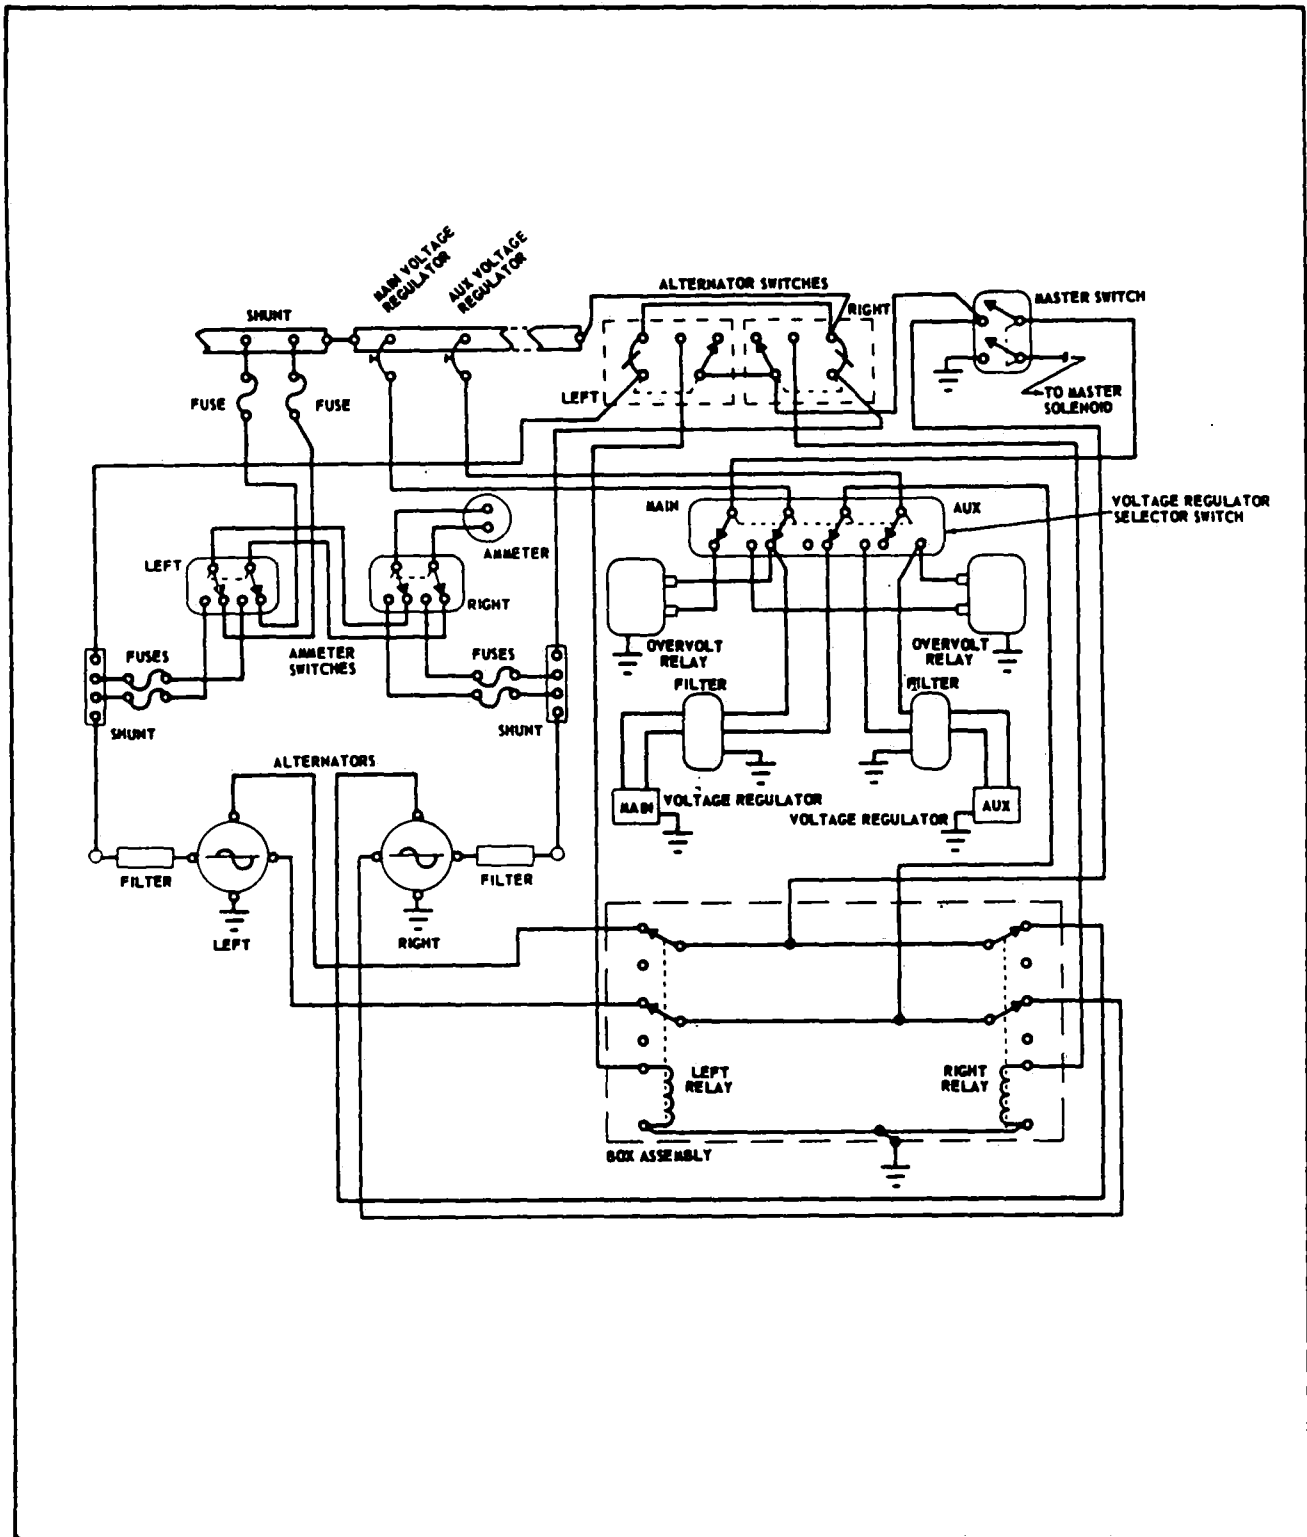

Figure 11-20. Alternator Wiring System Schematic
11-53. CHECKING ALTERNATOR SYSTEM. The ammeter is equipped with a selector switch which enables an independent output check of each alternator, as well as the electrical output-input of the battery. Should either alternator show no output on the ammeter, check the alternator output and field thermo circuit protectors, and ammeter line fuses. If a further check of the ammeter shows no output from both alternators, switch to the auxiliary voltage regulator and over-voltage relay. If switching to the auxiliary system indicates no electrical output, further check the alternator system. (Refer to Figure 11-20.)
- f. To check the alternator output circuit, connect a voltmeter or 14-volt test light to the battery lead and to ground. If a reading of approximately 14-volts registers on the voltmeter or the test light lights, the battery circuit is operational. Should there be no indication of voltage, trace back through the output circuit until voltage is indicated. (Refer to Figure 11-20.) A component that allows no voltage to pass through it should be replaced.
Always refer to the wiring diagram (Refer to Figure 11-20 when installing the alternator or testing the alternator.